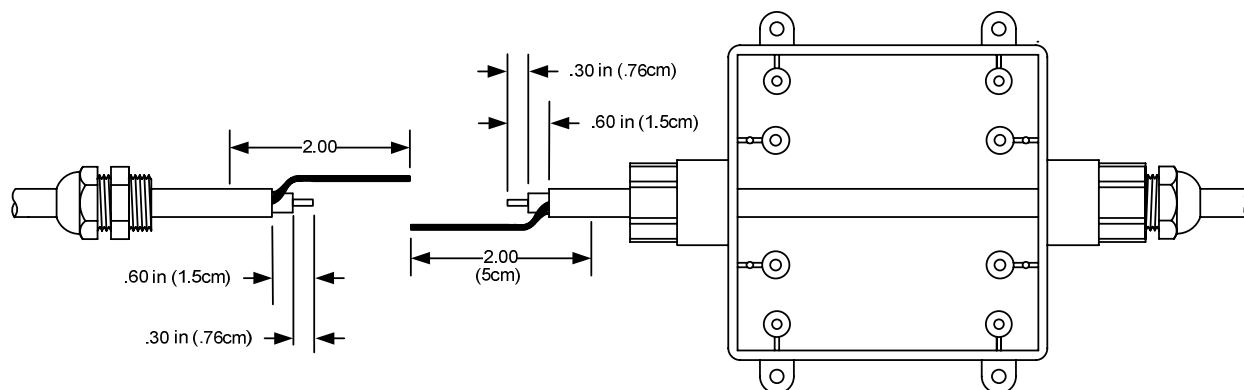

Figure 6.21 – Cable Stripping Dimensions for MTI
- **Step 3:** Strip the cables to the dimensions as shown in Figure 6.21. Clean the braid thoroughly using Goo Gone, WD40, Xylene, Kerosene, or Mineral Spirits to remove the flooding compound.